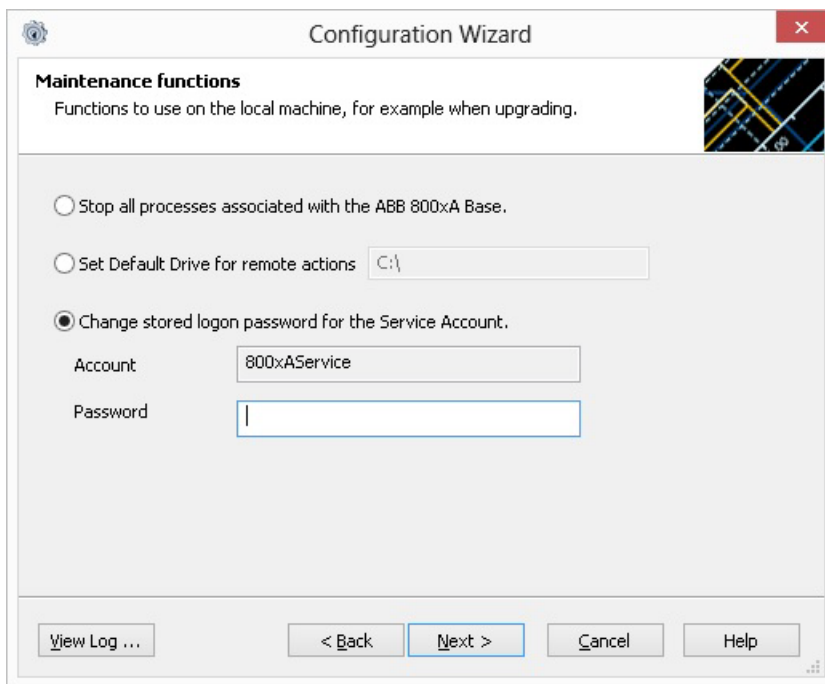

Figure 35. Maintenance - Change Service Account Password
1. Mark the **Change Service Account Password** radio button. See Figure 35.